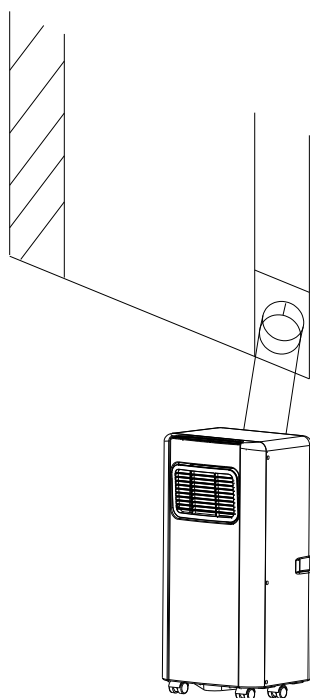
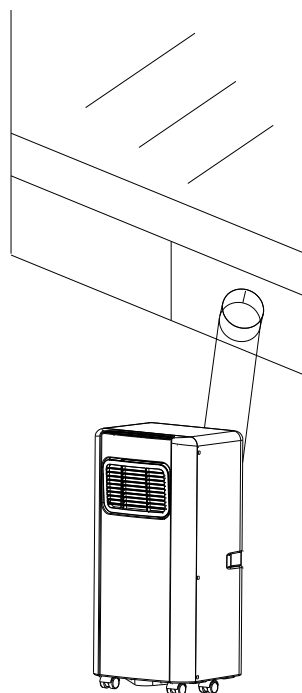

Fig.6
Fig.6a
- 2) As shown in Fig.6 and Fig.6a, install the exhaust hose, and adjust the window position well.